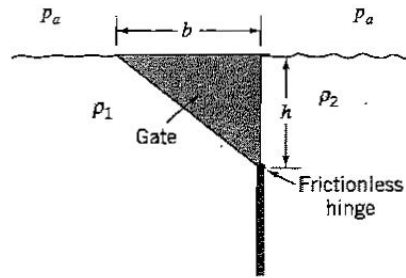

Figure P2.41
2.41 A rigid, weightless, two-dimensional gate of width W separates two liquids of density ρ_1 and ρ_2 , respectively, as shown in Figure P2.41. The gate pivots on a frictionless hinge and it is in static equilibrium. Find the ratio ρ_2/ρ_1 when $h = b$.